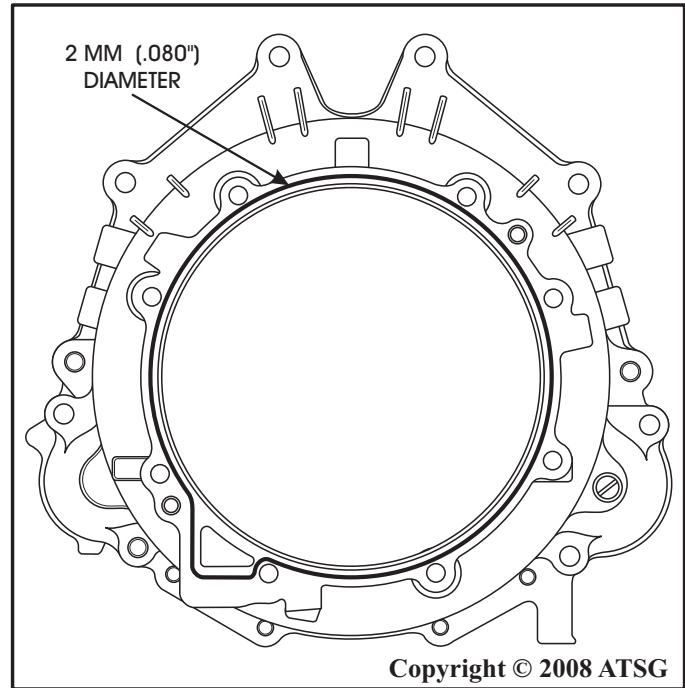

Figure 235
5. Apply a 2 mm (.080") bead of sealant (RTV) to the case side of the converter housing, as shown in Figure 235.